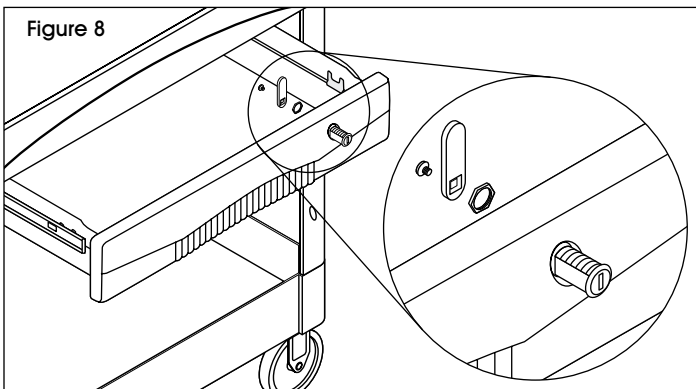

Figure 8
8. Slide the lock through the hole on the right side of the drawer front until lock front is flush with drawer front. Slide one hex locknut and one barlatch over the end of the lock. Secure end of lock with one trim screw. (See Figure 8)